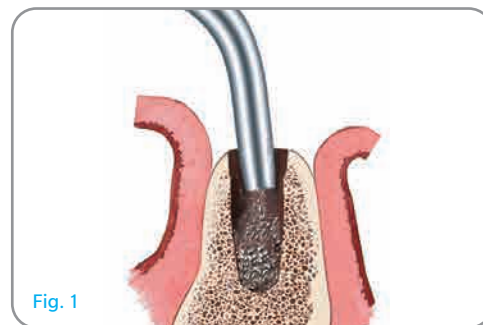

Fig. 1
Step 1: When using the NTDI and after preparation of the osteotomy with the final shaping drill, flush the osteotomy with sterile water or saline solution and suction out any remaining debris [Fig. 1]. This will ensure that the osteotomy is clear of debris that could prevent the NTDI from fully seating.